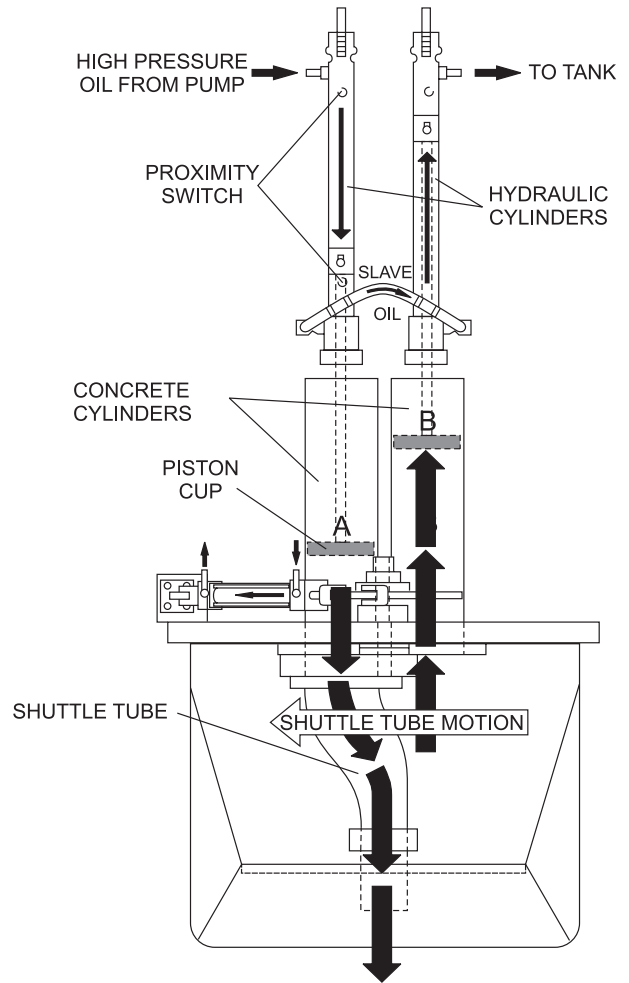

Figure 6. Pumping Cycle 2
The shuttle tube is sequenced to pivot to each concrete cylinder as the drive cylinders stroke to push concrete. As the second cycling sequence begins (Figure 6), the shuttle tube pivots to the opposite cylinder (A). The hydraulic piston passes under the proximity switch and sends pressure to the piston, causing it to stroke and discharge concrete into the delivery line. Hydraulic oil is transferred through the slave circuit to cylinder B, causing it to start a suction stroke, refilling it with concrete. The pumping sequence then repeats for the duration of the operation.